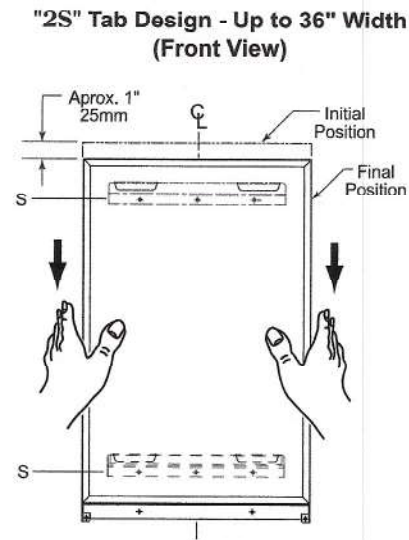

Figure: 4
**"2S" Tab Design** — Double-sided tape secures mirror to concealed wall hanger when it is lowered into final position (see figure 4).